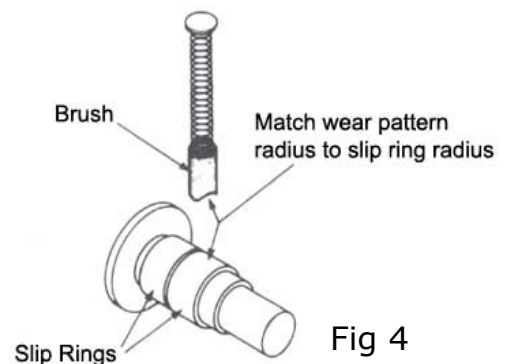

Fig 4
- 4) Reinstall brushes into brush holder. If existing brushes are reinstalled after inspection make certain to match wear pattern to slip ring (Fig 4). With brush placed into holder compress entire spring into holder and retain brush contact into opening with a $1/16''$ drill bit or mechanics wire. Install second brush following same procedure; slipping retaining pin forward through front opening of brush box to secure both brushes. (Fig 5).